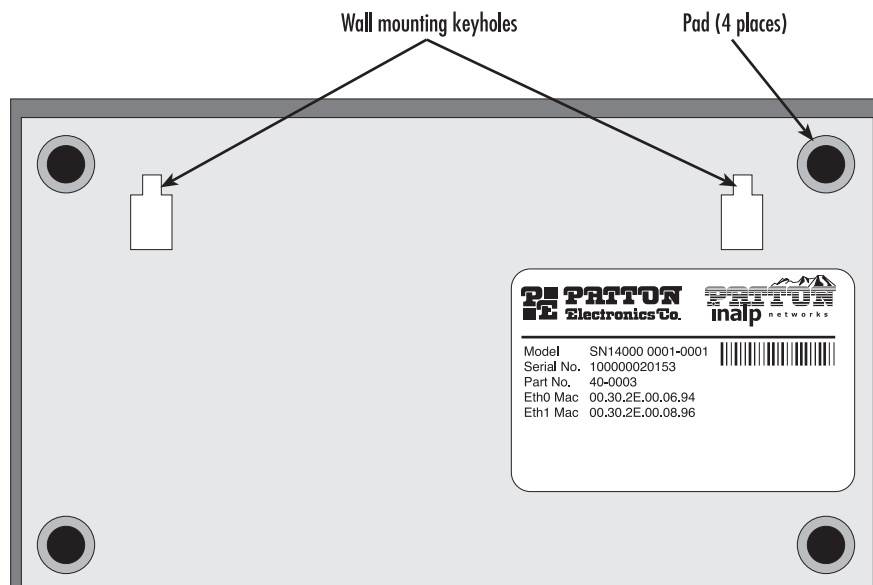

Figure 36. Pads and wall-mounting keyholes locations
1. Remove one of the rubber pads from the adhesive strip (included in the SmartNode installation kit pack) and place it on a corner on the bottom of the SmartNode 1200 (see figure 36).
2. Install the (user-provided) wall anchors. Any standard anchoring method may be used, such as wood screws; butterfly anchors/molly bolts (for installation into a sheetrock/drywall or plasterboard surface); or expansion bolts (for installation into a concrete or masonry surface). The anchor screw heads must have just enough clearance to allow the wall-mounting key holes (see figure 36 on page 71) to slip onto them when hanging the SmartNode 1200.